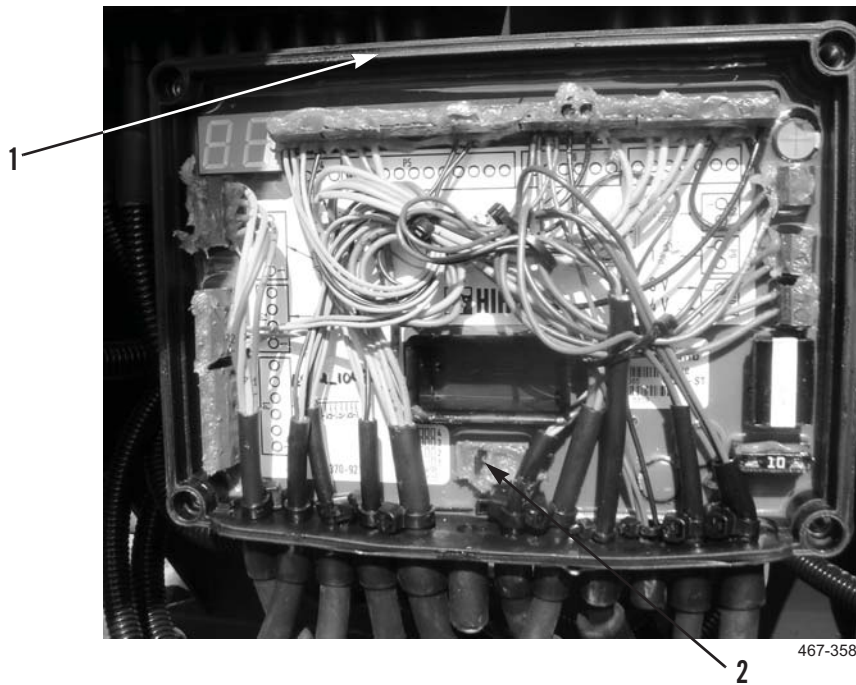

Figure 5. Install Jumper on Position Four.
9. At Space 4000 ST box (Figure 5, Item 1), place jumper (Figure 5, Item 2) on position four to enter calibration mode.